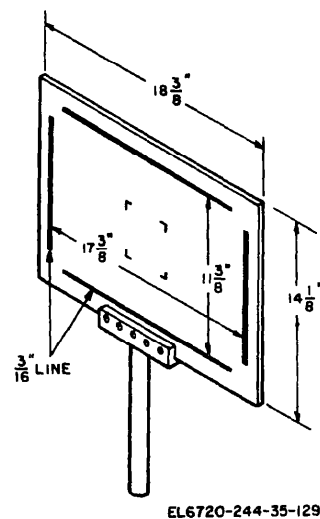

Figure 6-23. Ruled target 42-630.01-Z1A7.
(3) Ruled target 42-630.01-Z1A7 (fig. 6-23).